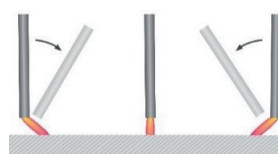

Fig. 40: The arc blows from the edge towards the middle.
- / The arc always blows from the edge of the workpiece towards the middle (Figure 40). Magnetic lines of force congregate at the edges, because they can disperse from here better than in the poorly conductive air at the weld gap, for example. This accumulation of the lines of force results in a magnetic force that causes the arc "edge effect".